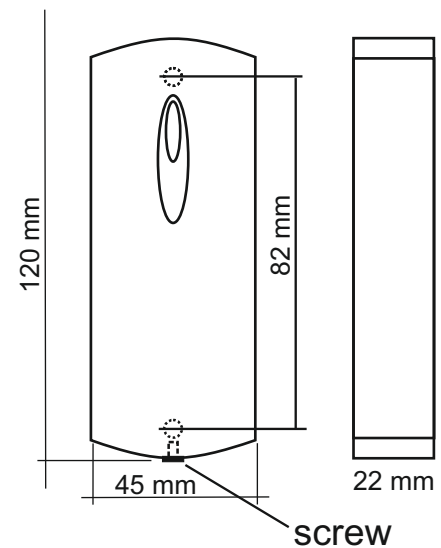

Figure 2. Device Dimensions.
- Mark and drill the mounting holes per Fig. 2;